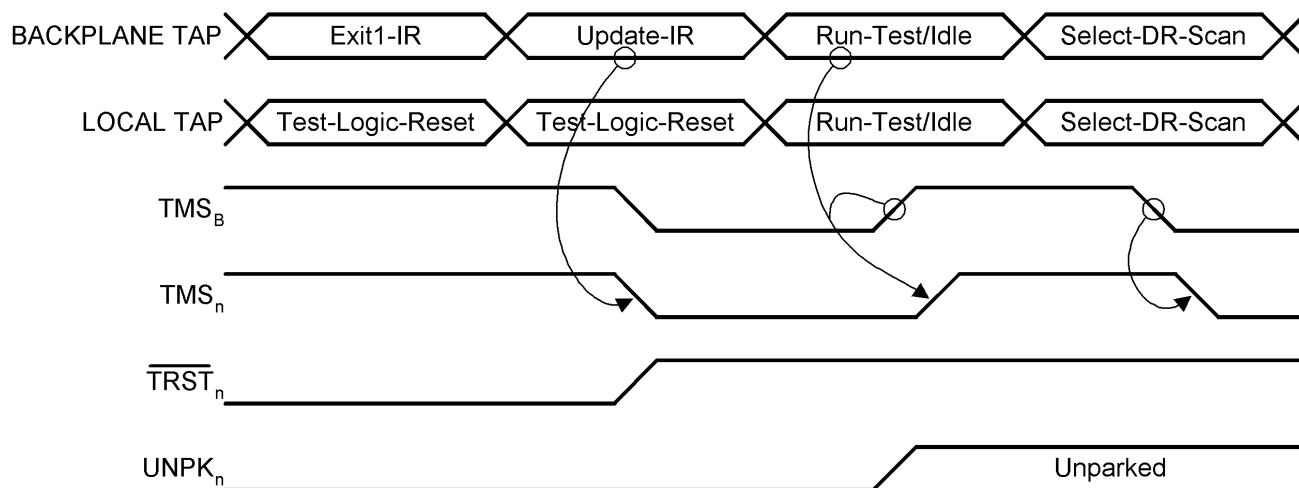

Figure 9. Local Scan Port Synchronization from Parked-TLR State
**UNPARK:** This instruction unparks the Local Scan Port Network and inserts it into the active scan chain as configured by Mode Register0 (and Mode Register1 in the HDL) (see Table 6). Unparked LSPs are sequenced synchronously with the 'STA111's TAP controller. When a LSP has been parked in the *Test-Logic-Reset* or *Run-Test/Idle* state, it will not become unparked until the 'STA111's TAP Controller enters the *Run-Test/Idle* state following the *UNPARK* instruction. An LSP which has been parked in *Test-Logic-Reset* will be parked in *Run-Test/Idle* upon update of an *UNPARK* instruction. If an LSP has been parked in one of the stable pause states (*Pause-DR* or *Pause-IR*), it will not become unparked until the 'STA111's TAP Controller enters the respective pause state. (See Figure 9 through Figure 12).